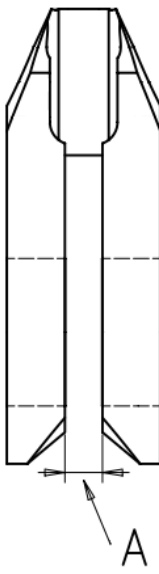

Figure 4: Distance between crankwebs / main journals.
- The extension bar needs to be straight and selected in accordance with the engine specific distance "A" between the opposing crankwebs / main journals (see table 1 and figure 4).